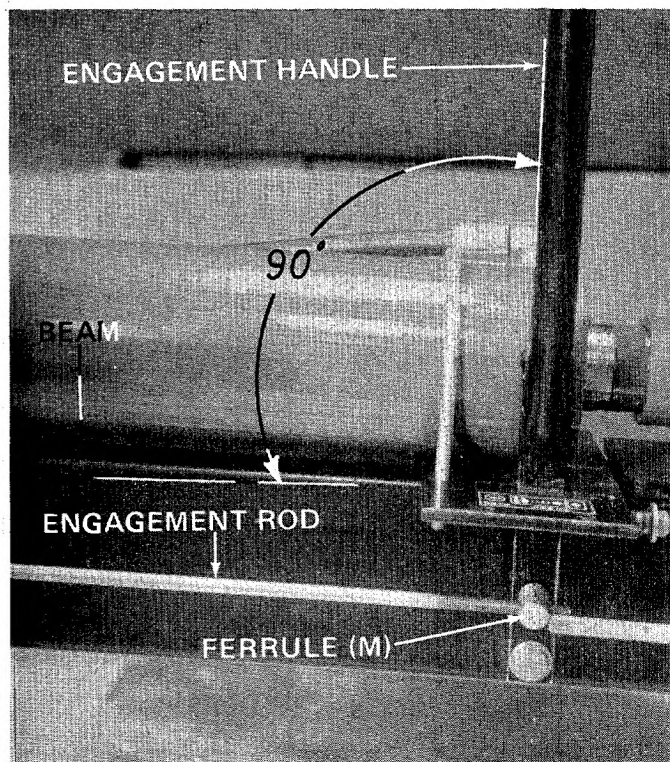

FIGURE 12
12. Thread ferrule (M) on engagement rod so there is approximately 1/2" of thread showing. Engagement handle must be at 90° to beam. Insert ferrule into engagement handle. See figure 12.